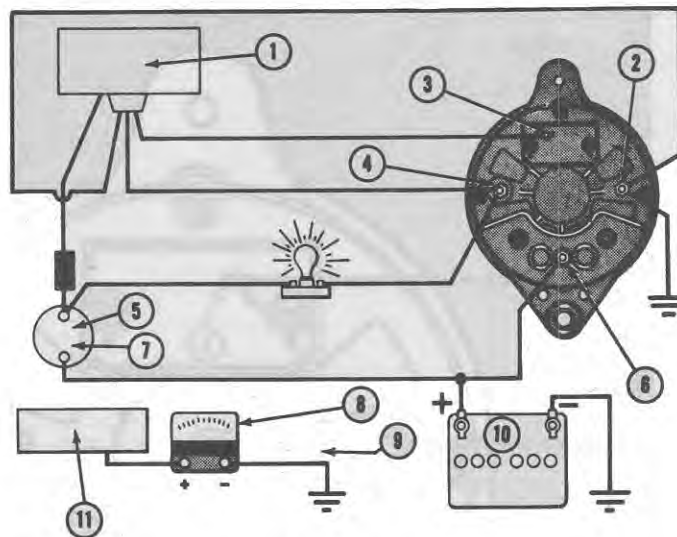

Figure 19
2. Connect the voltmeter negative lead to ground and the positive lead to the auxiliary terminal, Figure 19. Turn the key-starter switch on. The voltmeter reading should be approximately 2.5 volts. If the voltmeter reads approximately 2.5 volts, remove the fuse from the instrument panel. The charge indicator light should go out and the voltmeter should drop to 1.5 volts